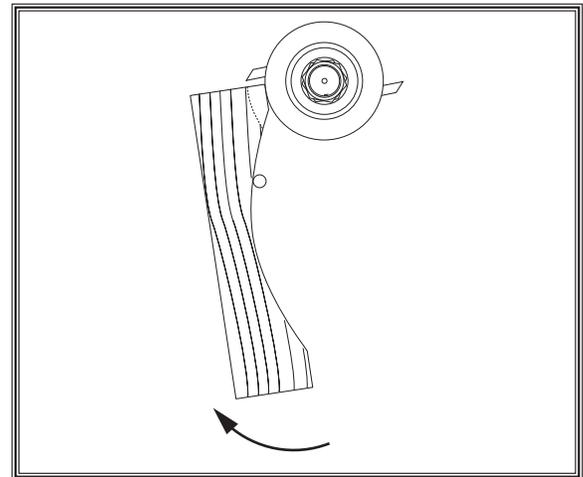

Figure 10. Swinging workpiece into knife and against pin.
10. Gradually swing work into moulding knives, keeping workpiece against starting pin (see **Figure 10**).